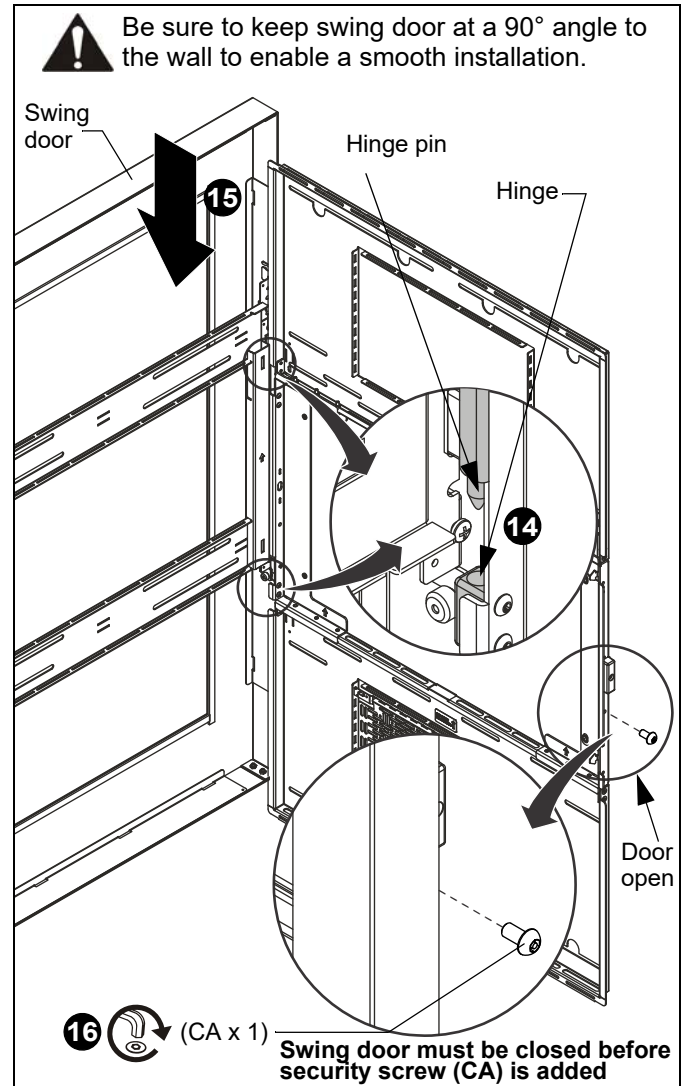

Figure 11
15. Lower swing door to engage hinge pins into hinges. (See Figure 11)
16. Close swing door and add 10-24 x 3/8" button head security screw (CA) in hole below latch to lock door. (See Figure 11)